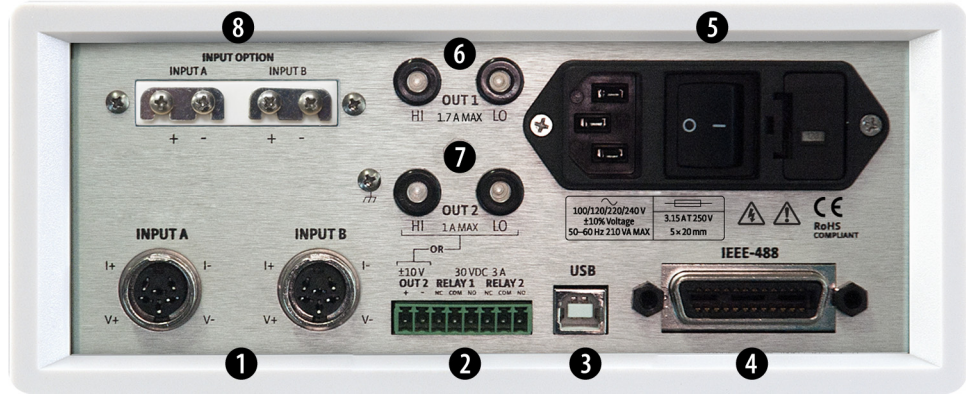

FIGURE 3-1 Model 335 rear panel
This section provides a description of the Model 335 rear panel connections. The rear panel consists of the Input A and B sensor input connectors (#1 in FIGURE 3-1), Output 2 voltage output and relays 1 and 2 terminal block connector (2), USB B-type connector (3), IEEE-488 interface connector (4), line input assembly (5), Output 1 and 2 heater output connectors (6 and 7), and the thermocouple option inputs (8). Refer to section 8.10 for rear panel connector pin-out details.